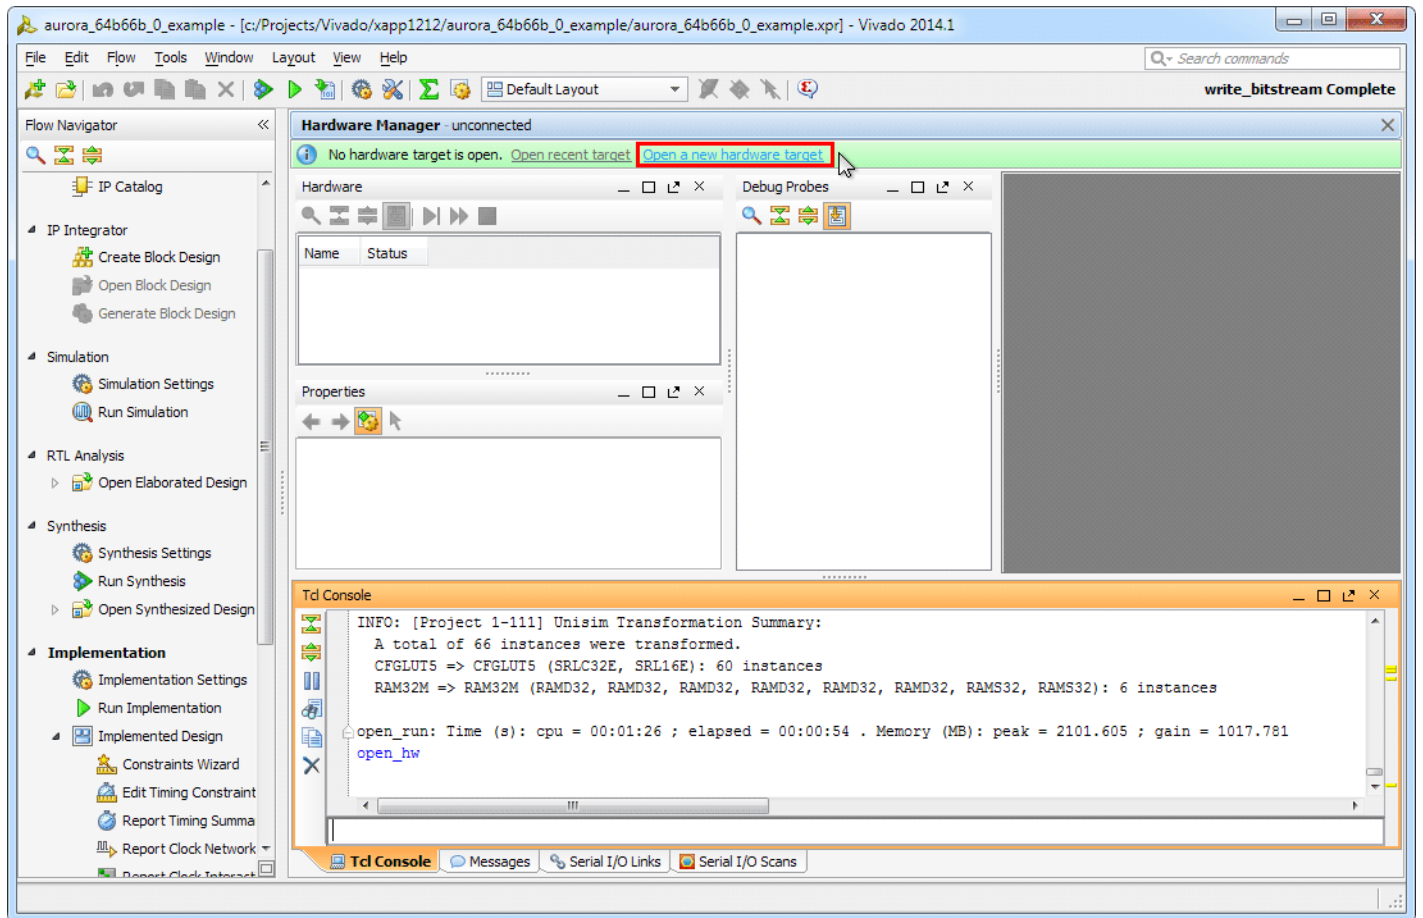

Figure 16: Open a New Hardware Target
- At the top of the Hardware Manager panel (see Figure 16), click **Open a new hardware target** and Click **Next**.